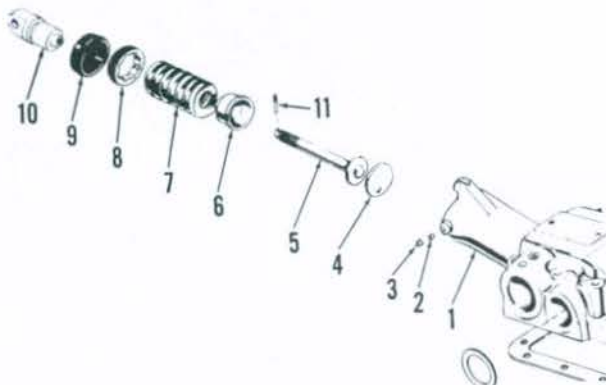

Fig. 185—The master control spring is located in rear of hydraulic lift cover.
201. MASTER CONTROL SPRING. To adjust master control spring (7—Fig. 185), disconnect upper link control beam from spring head (10). Position draft control lever fully down. Check for end play in spring by pulling and pushing on spring head. If end play is present, loosen set screw (3) in side of lift housing and pull back rubber boot (9) to expose adjusting nut (8). Turn adjusting nut into or out of lift cover until end play is just eliminated.